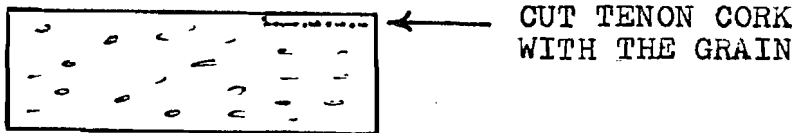

Figure 37
- c) Measure the width of the tenon groove and mark the cork. (The "grain" of the cork should be parallel with the cut cork's length as in Figure 37).